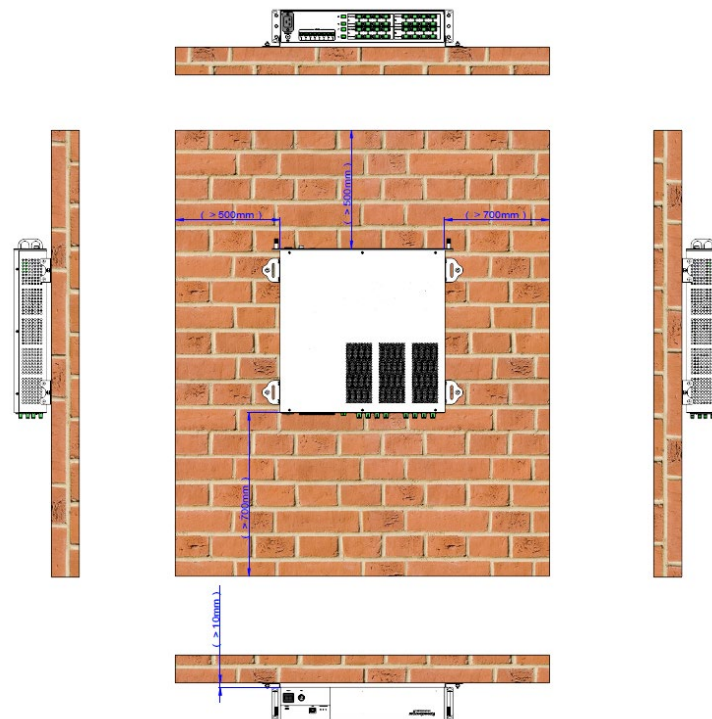

Figure 3-5 Location the holes on the wall
1. Check enough space for front and rear door according to Figure 3-5. and make sure the installation location.